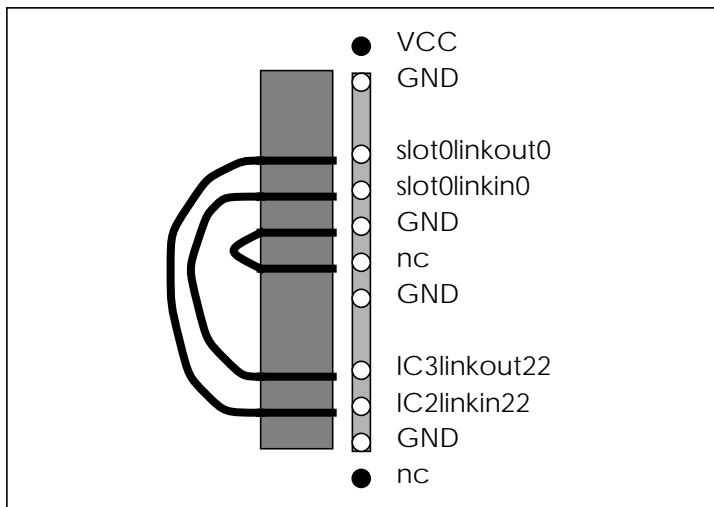

Figure 65. Jumpering slot0 link0 to the C004s
- slot0 link0 is taken directly to edge connector P2. Also taken to P2 is the C004 link that it would have been expected to be wired to. In normal use, these two links would be wired together using a specially provided link jumper (the "yellow plug cable", see figure 65). slot0 link0 is brought directly to the edge connector as it allows those applications that require it to have two directly wired links to other transputer equipment, i.e., links which bypass the C004s.